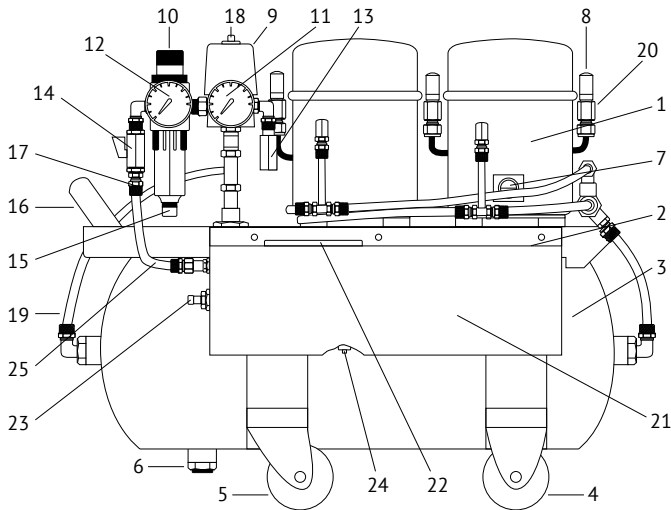

Fig. 1. Compressor K-25:
4.1 The panel's appearance is shown in Fig. 1.
4.3 Basic parts of the compressor are installed on platform 2 (Fig. 1), which is fastened with clamps 20 on receiver 3. Rear fixed wheels 4 and
6.4 After making sure that switch 18 (Fig.1) is off, connect the compressor to the 220 V, 50 Hz AC mains having an earthing contact.
7.2.1 Close valve 14 (Fig. 1).
7.3.1 Close valve 14 (Fig. 1).
7.3.2 Connect compressor fitting 17 to the booster unit's inlet using hose 25, as shown in Fig. 1.
7.4 In case of short-term downtimes, it is enough to close valve 14 (Fig. 1) and to bleed the air from the supply hose using the PSKA panel or other equipment connected. To resume operation, it is enough to open valve 14.